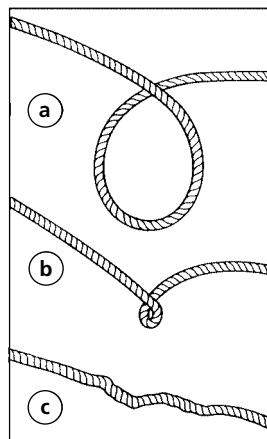

Figure 10
5. PREVENT KINKS BEFORE THEY OCCUR. (FIGURE 10).